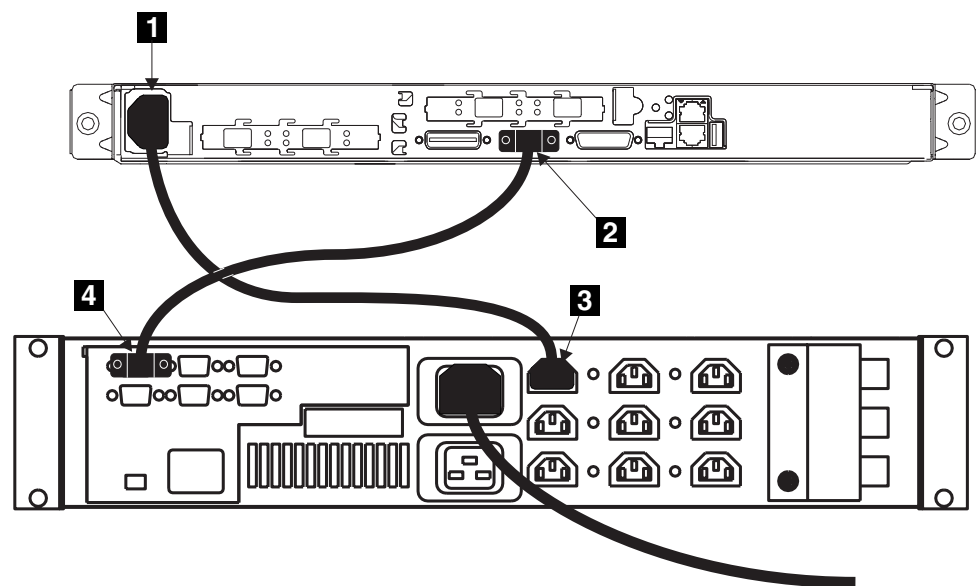

Figure 33. Connecting the SAN Volume Controller power cable to the uninterruptible power supply
1. At the back of the SAN Volume Controller, plug a power cable into the socket **1** (see Figure 33).